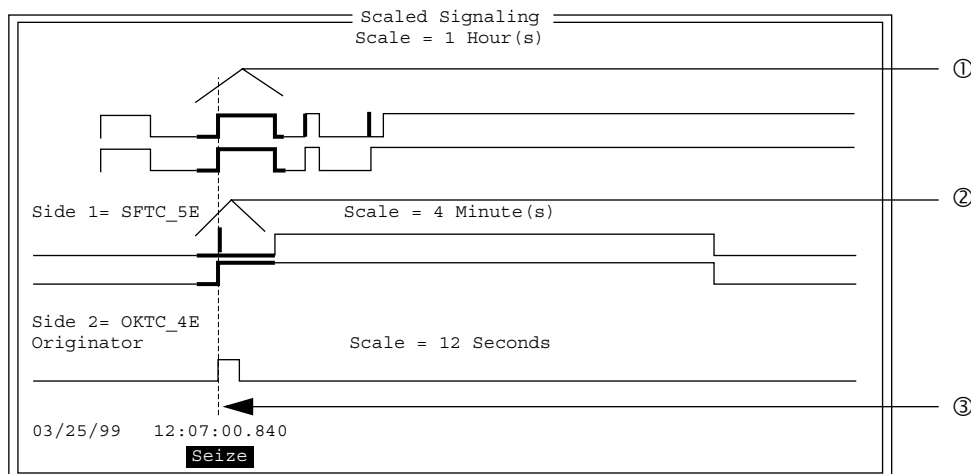

Figure 2-17 Sampel Scaled Signaling section of a Trace Set display
For example, in Figure 2-17, the darkened area in the top trace set (①) is expanded in the middle trace set. The darkened area in the middle trace set (②) is expanded in the bottom trace set.